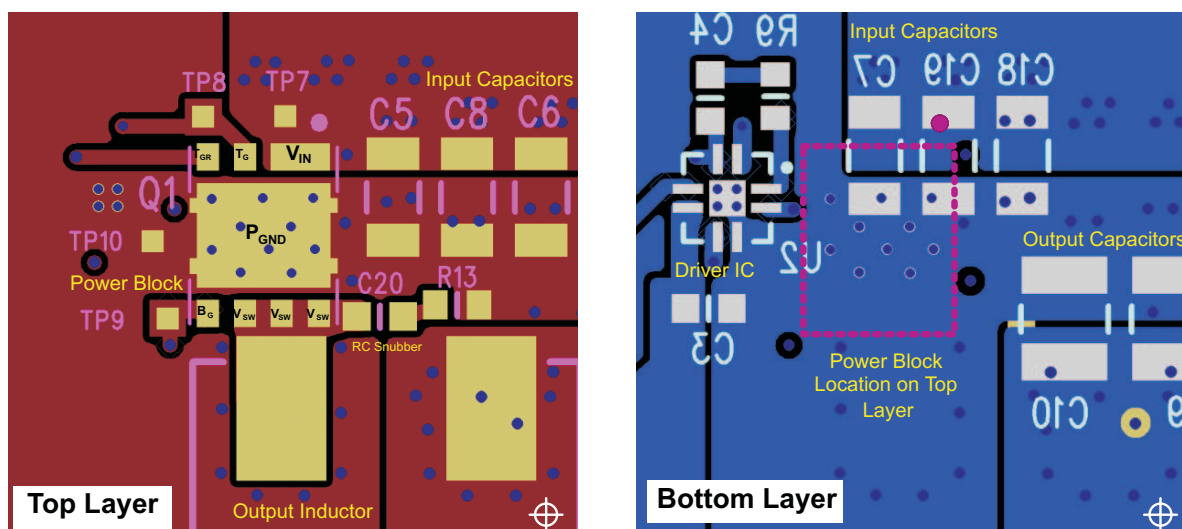

图 33. Recommended PCB Layout (Top View)
- The placement of the input capacitors relative to the Power Block's VIN and PGND pins should have the highest priority during the component placement routine. It is critical to minimize these node lengths. As such, ceramic input capacitors need to be placed as close as possible to the VIN and PGND pins (see Figure 33). The example in Figure 33 uses 6 × 10-μF ceramic capacitors (TDK Part # C3216X5R1C106KT or equivalent). Notice there are ceramic capacitors on both sides of the board with an appropriate amount of vias interconnecting both layers. In terms of priority of placement next to the Power Block, C5, C7, C19, and C8 should follow in order.
- In the event the switch node waveform exhibits ringing that reaches undesirable levels, the use of a Boost Resistor or RC snubber can be an effective way to reduce the peak ring level. The recommended Boost Resistor value will range between 1 Ω to 4.7 Ω depending on the output characteristics of Driver IC used in conjunction with the Power Block. The RC snubber values can range from 0.5 Ω to 2.2 Ω for the R and 330 pF to 2200 pF for the C. Refer to TI App Note SLUP100 for more details on how to properly tune the RC snubber values. The RC snubber should be placed as close as possible to the Vsw node and PGND see Figure 33.(1)
- Use the smallest drill size allowed in your design. The example in Figure 33 uses vias with a 10 mil drill hole and a 16 mil capture pad.